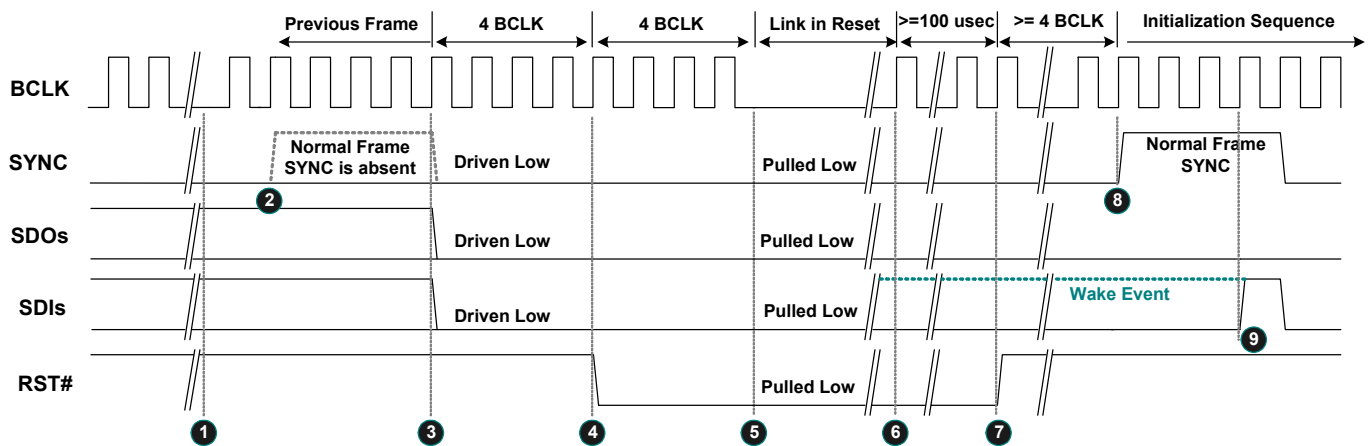

Figure 13. Link Reset Timing
3. Software initiates power management sequences. Figure 13, page 20, shows the ‘Link Reset’ timing including the ‘Enter’ sequence (❶~❷) and ‘Exit’ sequence (❸~❹)